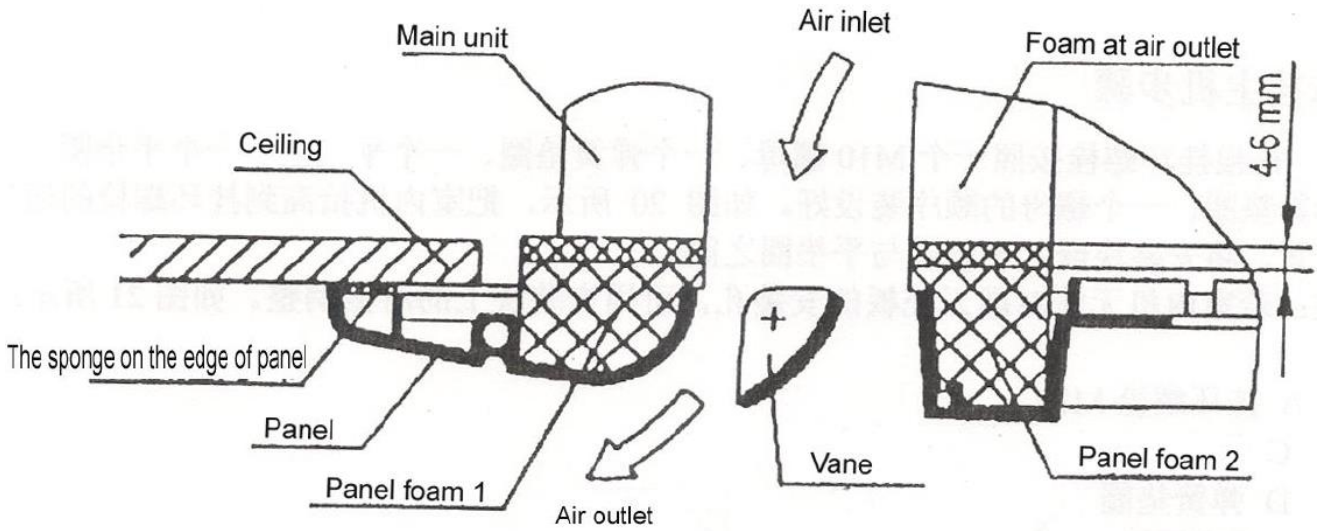

Fig12
(2) In installation, put the hooks of swing motor and the panel onto the hook of water pan on the main unit (as shown in Fig 12①), and then put the rest two hooks of the panel onto the suspending support of the main unit (as shown in Fig 12②);
(6) Continue to tighten evenly the bolts under the hooks till the thickness of the sponge between the main unit and the panel is reduced to 4~6mm, and the edges of the panel are all contact well with the ceiling (See Fig12)